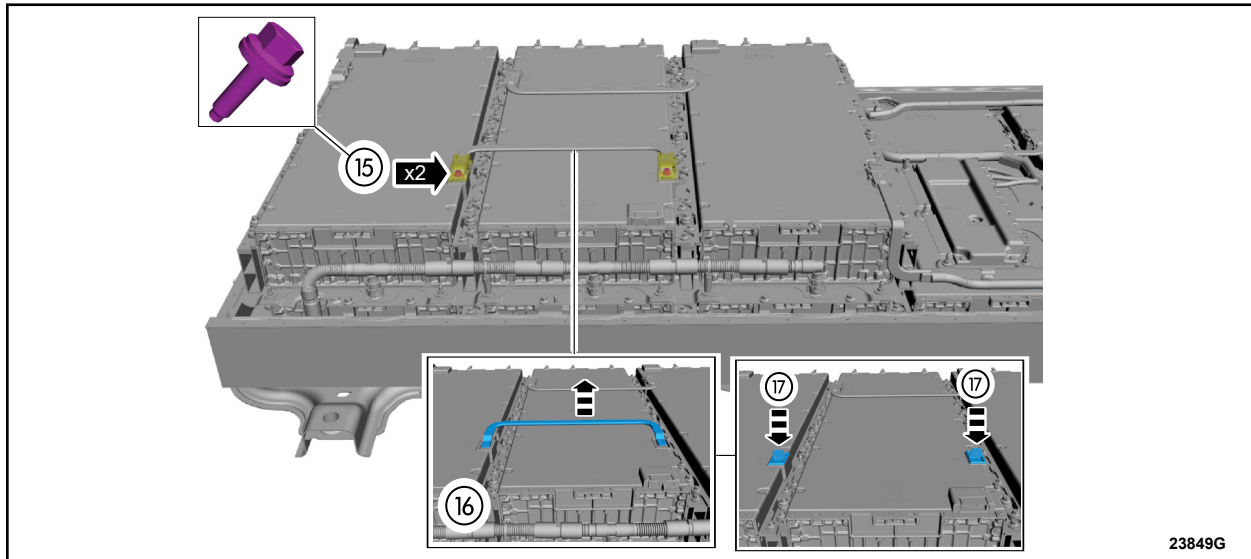

FIGURE 7
16. Open the terminal covers and remove the bolts. See Figure 7.
17. Remove the bus bar. See Figure 7.
18. Install the battery module terminal covers. See Figure 7.